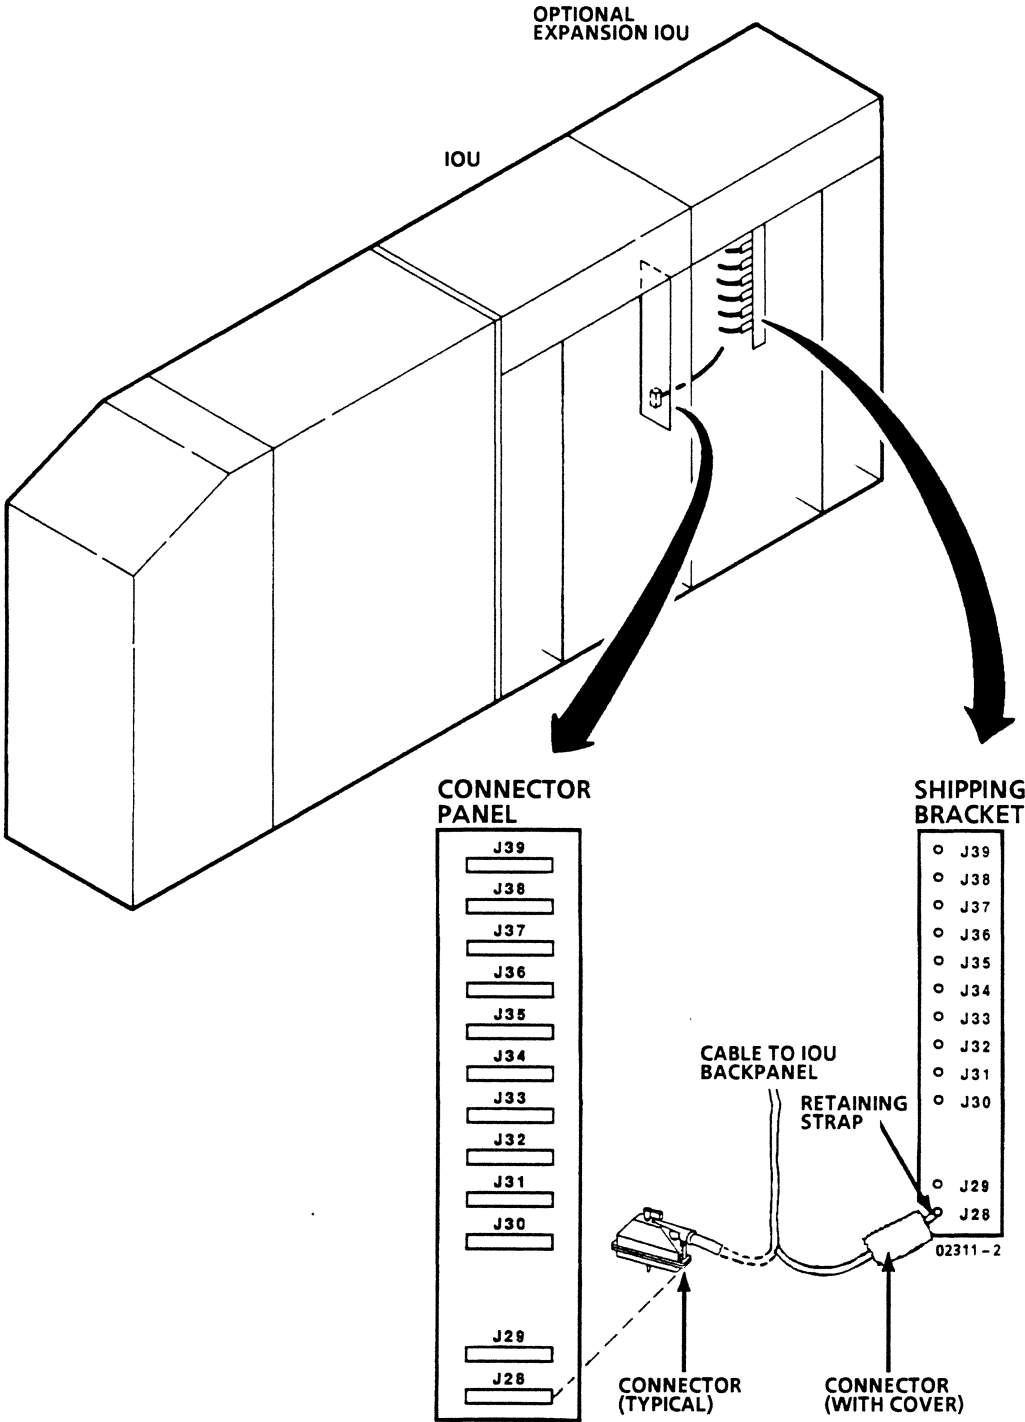

Figure 2-20. Optional IOU Expansion to IOU Cable Connections
- ___ 2. Cut restraint from connector J28 and shipping bracket in IOU expansion (figure 2-20).